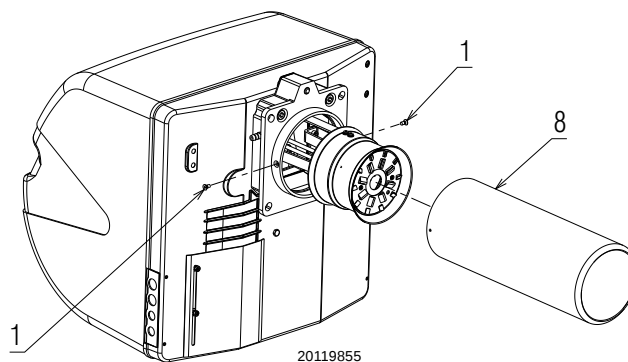

Fig. 2
- unscrew the two screws 1(Fig. 2) and remove the flame funnel 8);